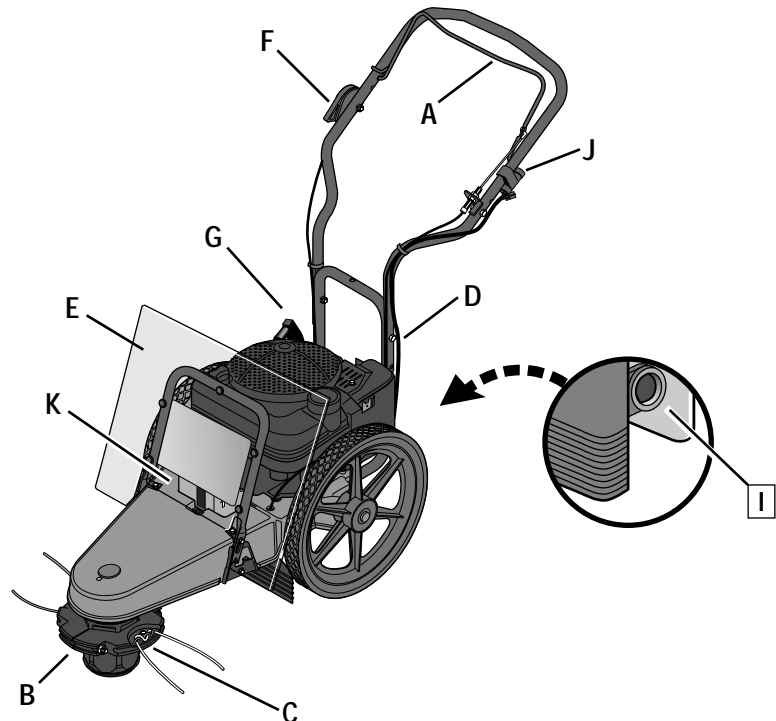

Figure 3-1: Features and controls (electric start model shown).
Pull the control bail (A, Figure 3-1) up against the handlebar (engage bail) to start rotation of the trimmer head. Let go of the control bail (disengage bail) to stop the trimmer head.
The trimmer head (B, Figure 3-1) is adjustable to an infinite number of height settings from 1-1/2" -to- 4-1/2".
The trimmer lines are secured to line holders (C, Figure 3-1). Replacing the trimmer lines is a simple procedure (see *Changing Trimming Lines* in Section 5).
The handlebar (D, Figure 3-1) has two height settings (see *Adjust Handlebar Height* in the *Operation* Section).
The plastic debris shield (E, Figure 3-1) protects the engine from all manner of debris. The shield tilts forward for access to the engine.
Use this lever (F, Figure 3-1) to regulate engine speed and to stop the engine. The throttle settings are shown on the decal next to the lever.
The recoil starter (G, Figure 3-1) is located at the rear of the engine and is used to pull start the engine.
On electric start models, the keyswitch (J, Figure 3-1) is used to start the engine. The keyswitch does not have an engine stop position. Use the Engine Throttle Control Lever (F) to stop the engine.
On electric start models, the battery (K, Figure 3-1) will crank the engine starter motor when the keyswitch is turned to the start position. Do not crank engine longer than five (5) seconds per each starting attempt.
1. Lift and tilt plastic debris shield (E, Figure 3-1) forward.